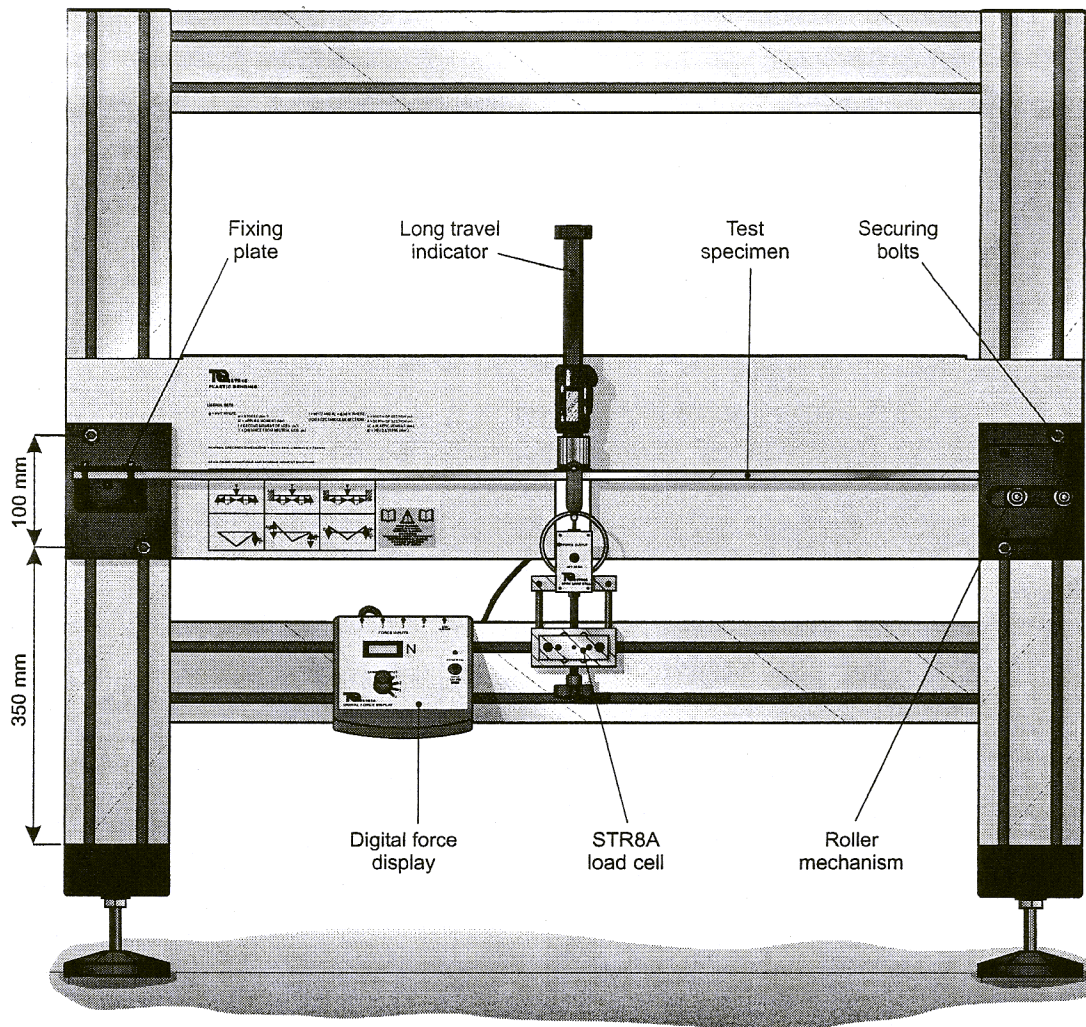

Figure 2 Plastic bending of beams experiment in the structures frame
The Plastic bending of beams experiment fits into a Test Frame. Figure 2 shows the Plastic bending of beams experiment in the Frame with a load cell and force display used to bend the beams and measure the force applied.
2. There are two securing nuts in each of the side members of the frame (on the inner track). Move one from each side to the outer track (see STR1 instruction sheet) then slide all four nuts to approximately the positions shown in Figure 2.